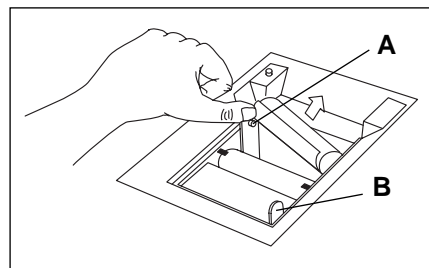

Figure 9.38
1. Press left side of paper roll holder (A) out to remove roll (Figure 9.38).
2. Move bail lever (B) towards front of instrument into load position (Figure 9.38).